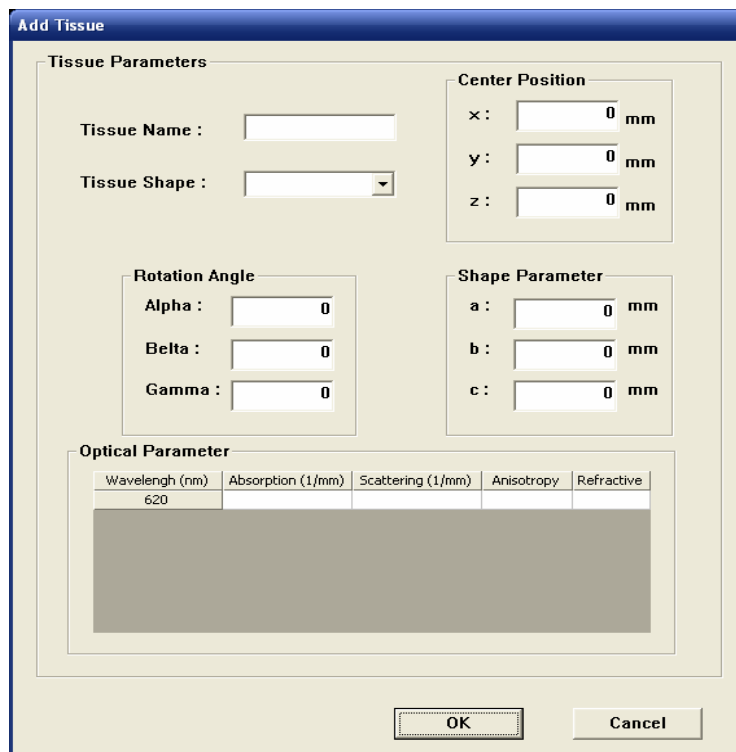

Figure 7-3. Dialog box for adding a new tissue
a. Click the button **Add Tissue**, an input dialog box will be shown as Figure 7-3. We